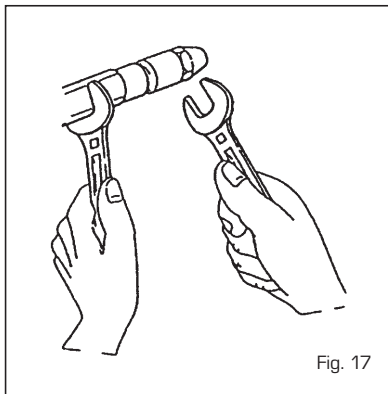

Fig. 17
- Block the spray door using a n°19 spanner and unscrew the nozzle with a n°16 spanner [fig. 17].